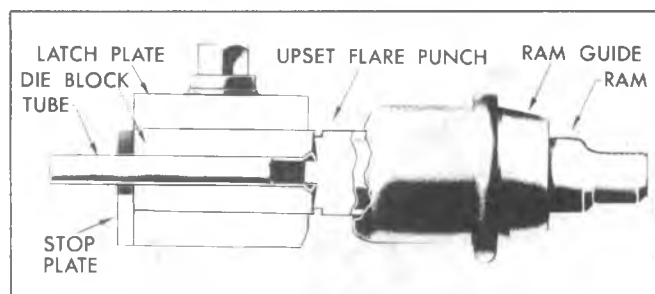

Fig. 12—Flaring Operation
6. Using the supplied wrench, draw the latch plate nut down tight to prevent the tube from slipping. Tightening the nuts alternately (beginning with the nut at the closed hole in the plate), will prevent distortion of the plate. Remove the punch and the ram. Now reverse the punch and put it back into the tool body. Install the ram and tap it until the upset flare is complete (fig. 12). This completes the first operation. Remove the ram and the punch.